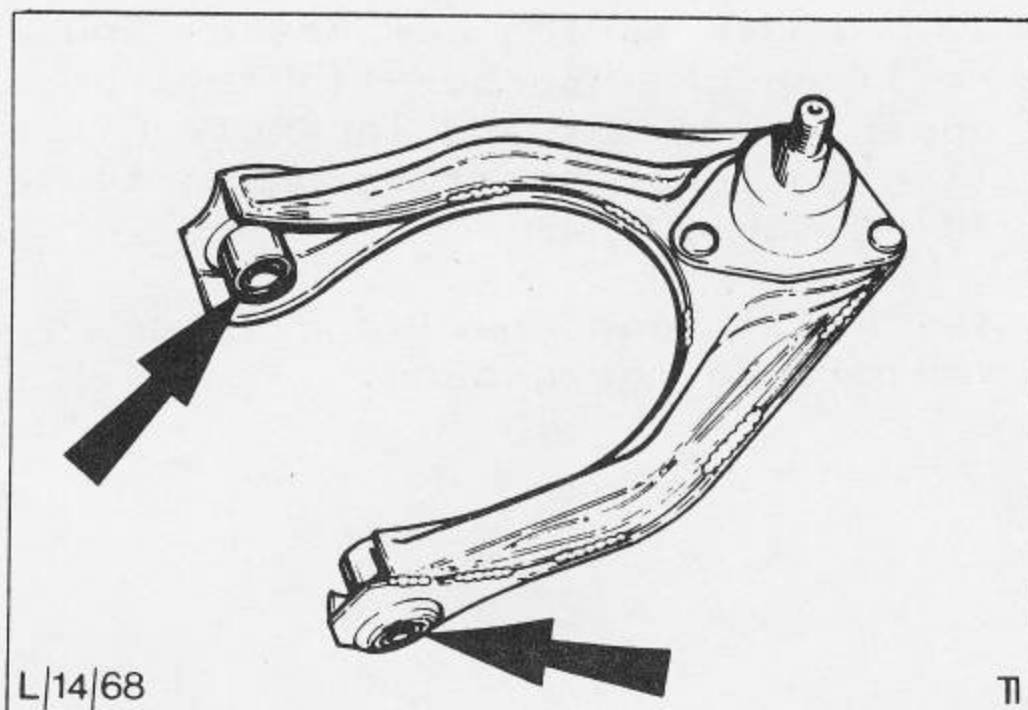

Fig.43 Upper arm bush location.
10. Using tool 14-004 install new bushes into the upper arm. Fig.43